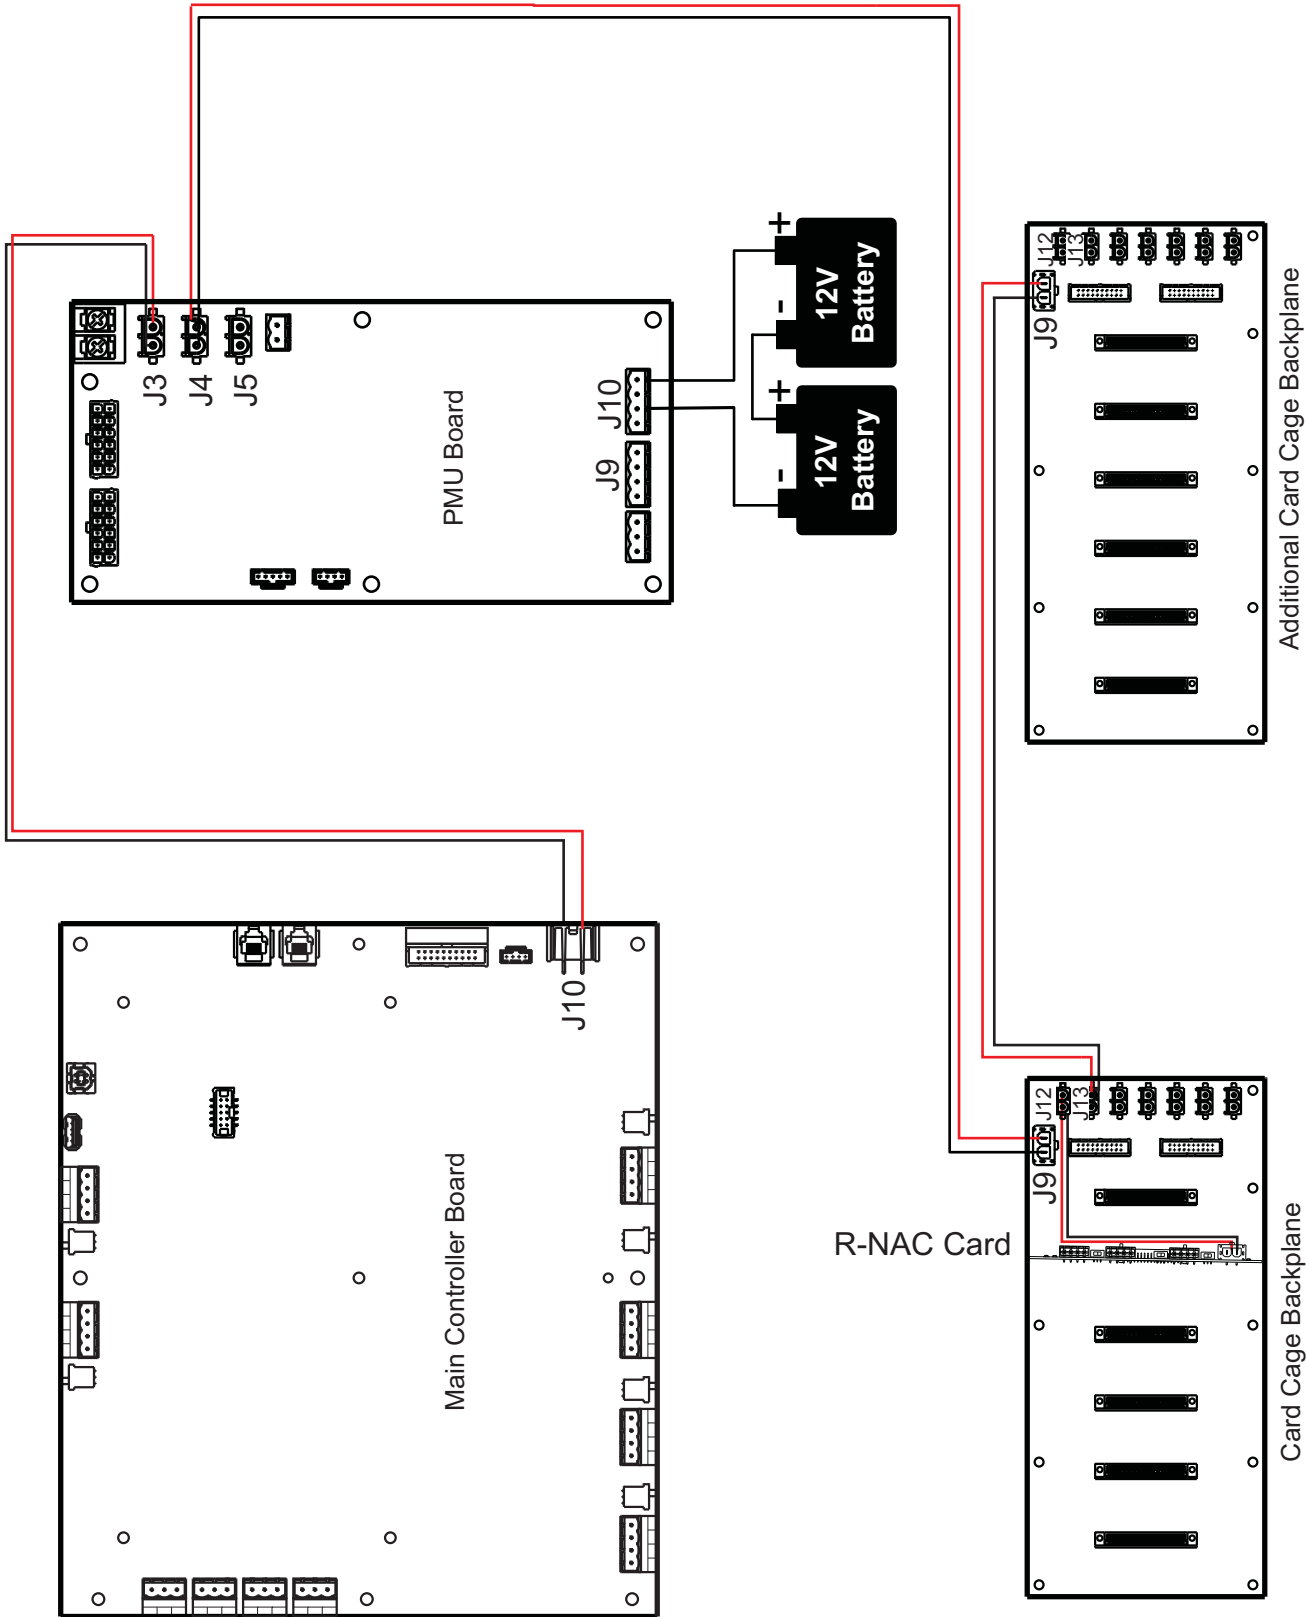
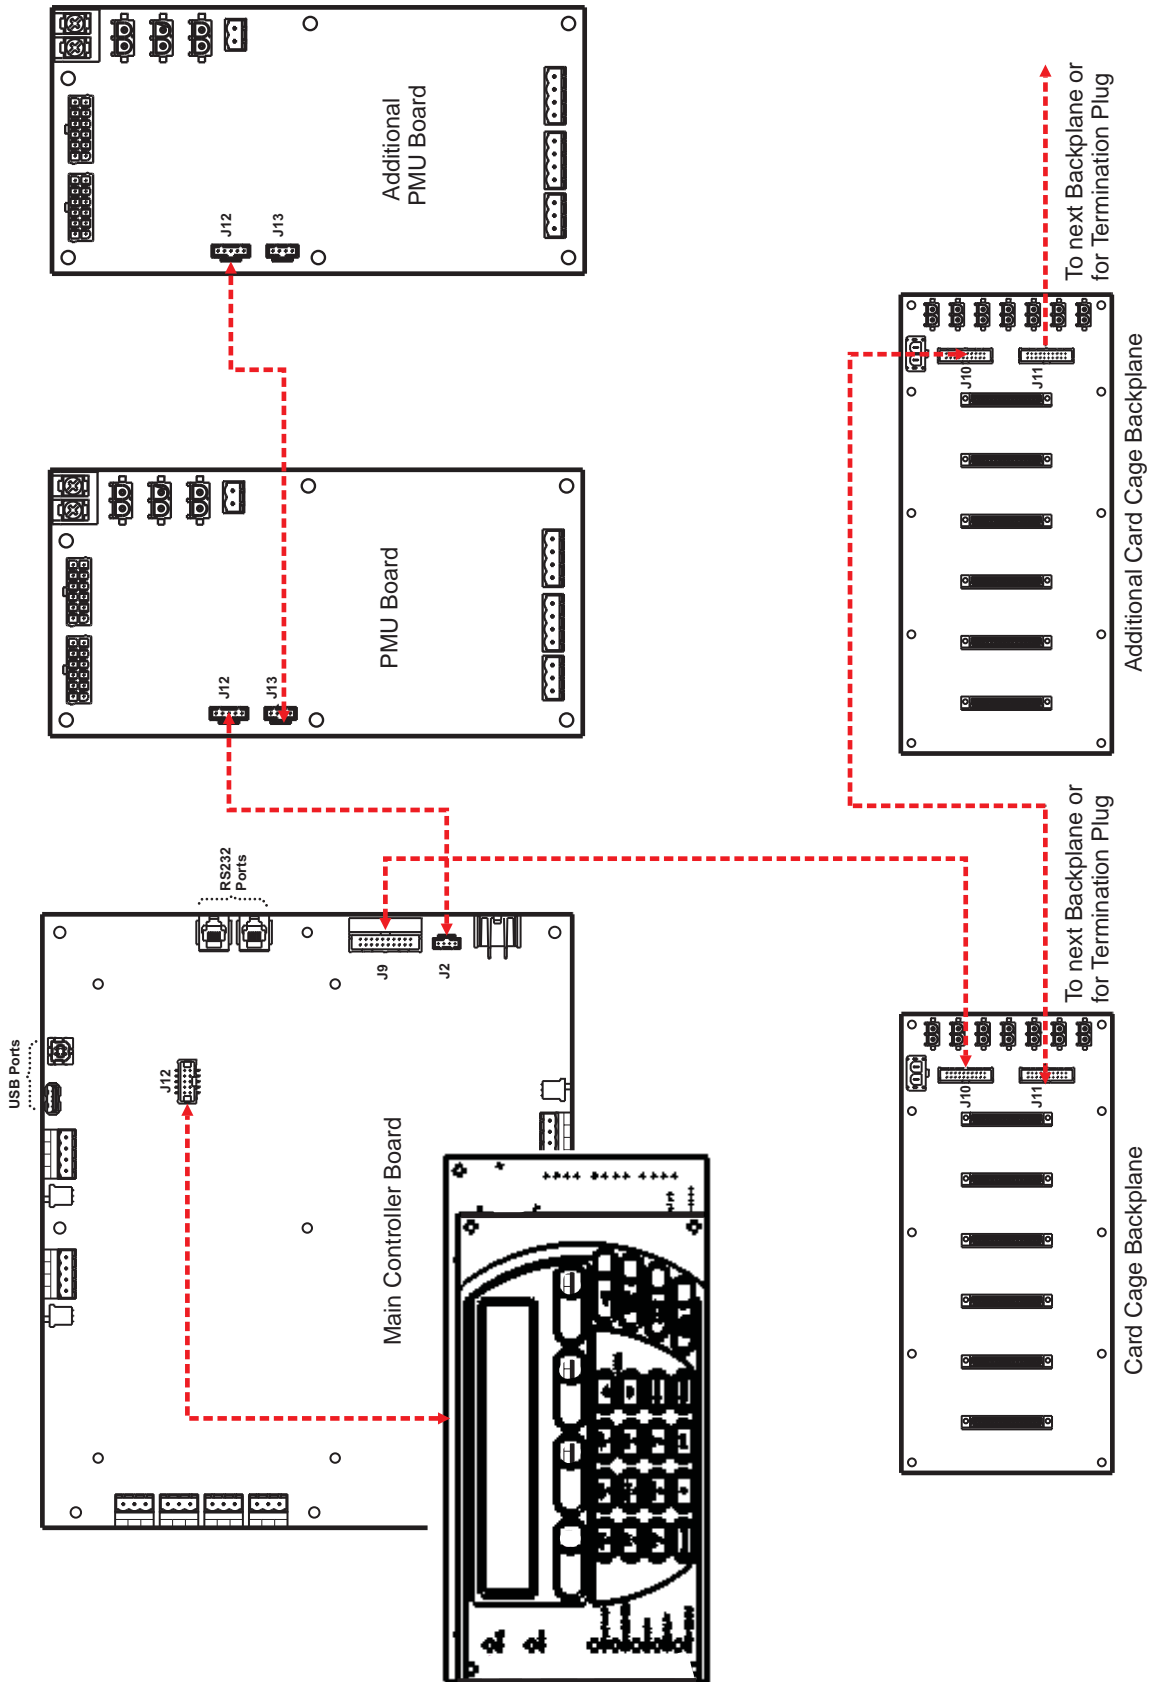

Figure 2-16. Internal 24 Vdc Power Connections
Figure 2-17. Internal Communication Connections
**Note:** Before securing the MCB, for ease of access, it is recommended to fully open the MCB and connect internal power and communication connections. Refer to Figure 2-16 and Figure 2-17 for an overview of power and communication connections.
Figure 2-16 provides an overview of internal 24Vdc power supply connections for the FenwalNET 8000-ML system.
Figure 2-17 provides an overview of internal communication connections for the FenwalNET 8000-ML system.